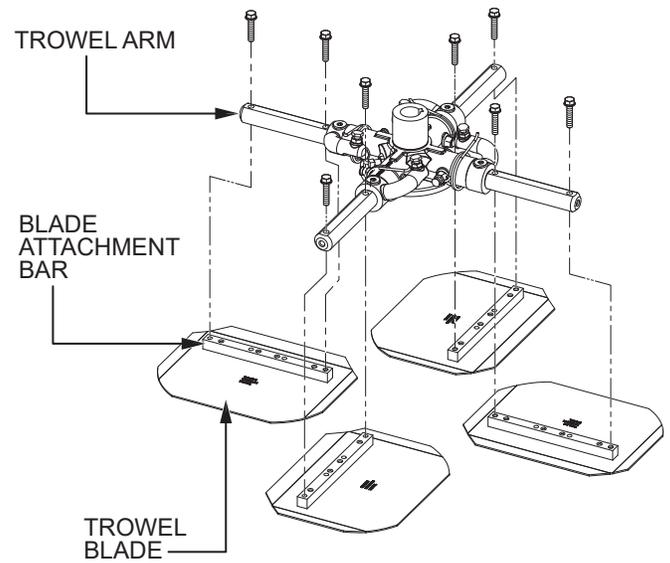

Figure 46. Blade Removal
2. Remove the bolts from each of the trowel arms, then remove the blades as shown in Figure 46.